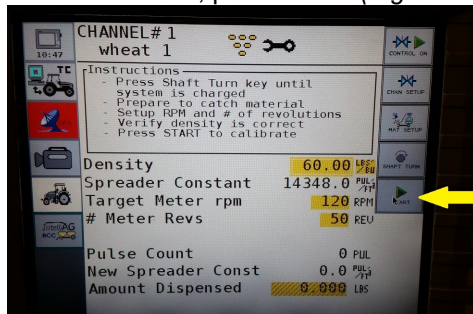

Figure 48
Step 8. To start test, push **Start**. (Figure 48)